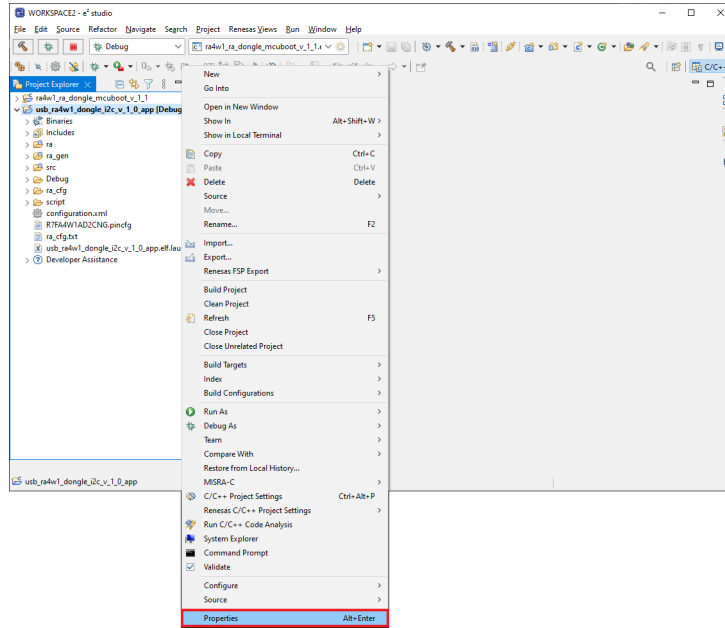

Figure 23. Opening Project Properties
- The project is now duplicated into the e² studio workspace and must be configured. In the **Project Explorer** right-click on the application project folder and select **Properties** to open the project properties window (Figure 23).